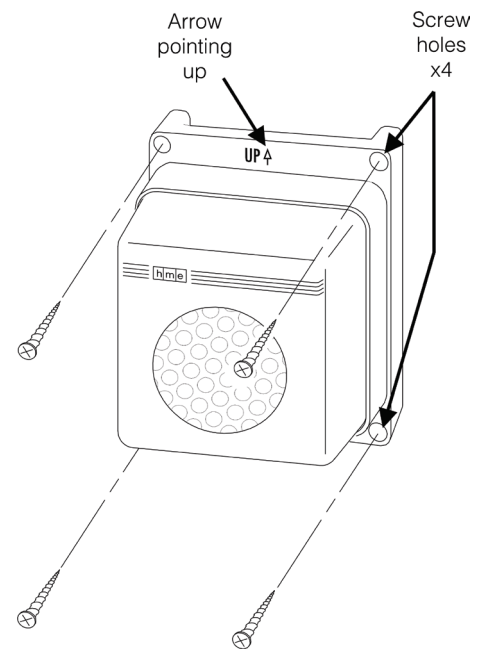

Figure 4. Mounting the DU3 detector unit
- Hold the detector unit with the arrow on its top-front pointing up (Figure 4), and the screw holes at its four corners over the screw anchors on the wall. Push any slack cable back through the center hole into the building.
- Screw the four enclosed screws through the screw holes in the detector unit (Figure 4) and into the screw anchors, to fasten the unit securely to the outside wall.